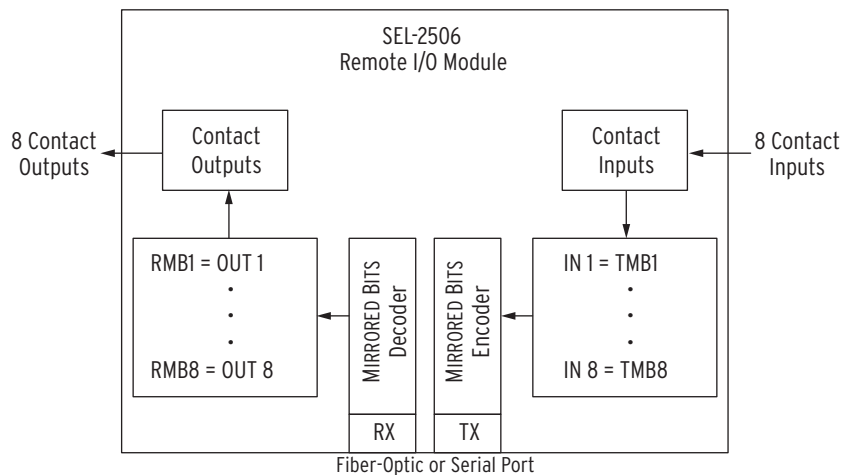

Figure 10 SEL-2506 Functional Block Diagram
Figure 10 shows the functional block diagram of the SEL-2506. There is a MIRRORED BITS decoder associated with the receive (RX) port and an encoder for the transmit (TX) port. The decoder receives MIRRORED BITS messages, checks that the receive address matches that set by switches 3–4, checks for data message errors, and then decodes each message. If a Receive MIRRORED BITS (RMB) is a logical one for the number of message frames set by switches 5–8, the SEL-2506 asserts the corresponding output contact.